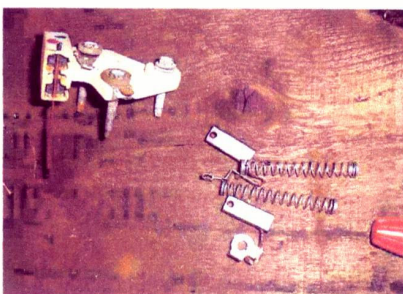

Figure 4
But what if you did like I did and unevenly pulled on the front casing and lifted the rotor out of the rear casing; releasing the brushes? Well now comes time for the "*Magic Paper Clip*". As seen in **Figure 4** the brushes are spring loaded and will come completely free of the brush holders. Well, the brush holder, as seen in the upper left of **Figure 4**, has a hole in both the top and bottom that is just made for a paper clip. You hold one brush in the holder and slide the paper clip through the hole in the brush holder and over the face of the brush. Then you hold in the second brush and slide the paper clip across the face of the second brush and into the hole on the other side of the brush holder. What makes this magic? There is a hole in the
7. Once you have the replacement voltage regulator put the two brushes back in the brush holder and hold them in place with the "Magic Paper Clip" as seen in **Figure 4**.